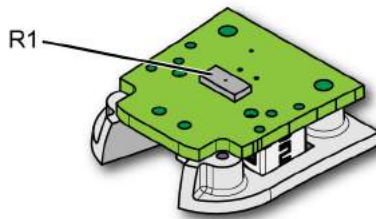

Figure 29 Location of R_{SENSE} Resistor (R1)
- 4 Change or add the R_{SENSE} resistor (**R1**) as shown in Figure 29.